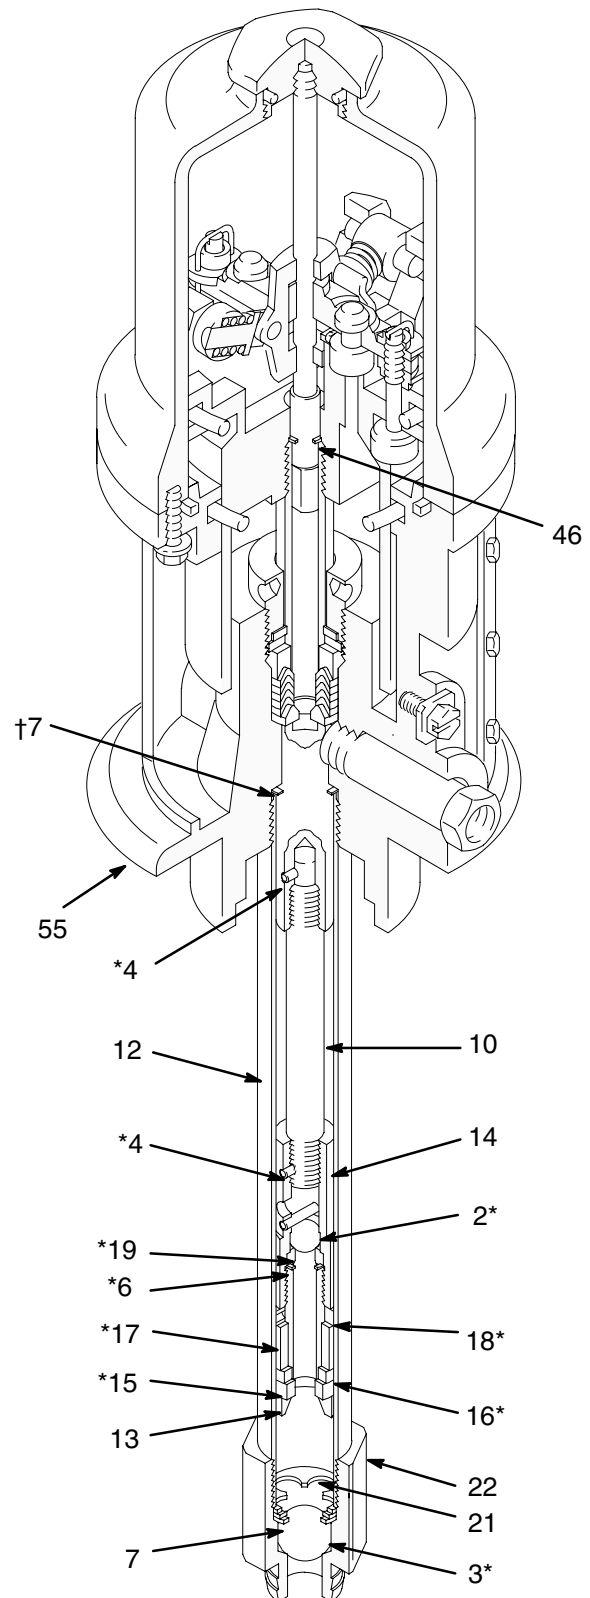

Fig. 9
4. Unscrew the intake valve body (22) from the riser tube (12). See Fig. 9. Disassemble the intake valve.
5. Clean and inspect the parts for wear or damage, and replace parts as needed. Unless further service is needed, reassemble and reinstall the intake valve, using liquid sealant on the male threads. See Fig. 9.
6. Use a strap wrench on the riser tube (12) to screw it out of the air motor base (55). Carefully inspect the smooth inner surface of the cylinder for scoring or irregular surfaces. Such damage causes premature packing wear and leaking, so replace the part if damaged.
7. Unscrew the piston body (13) from the piston coupling (14). Remove the ball (2\*), seat (19\*), gasket (6\*), bearing (18\*), packing (17\*), and seal (16\*). Do not remove the press-fit brass bearing (15\*). See Fig. 9.